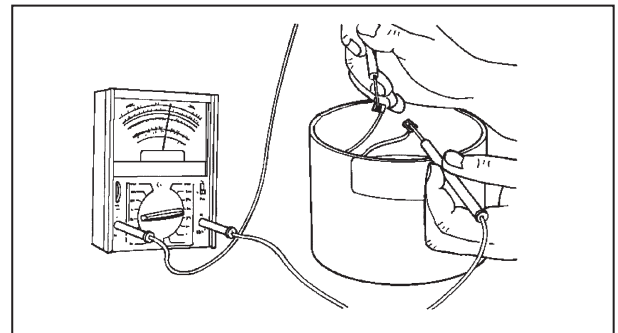

Figure 4.20
13. Test stator windings for open, grounded, or shorted conditions by connecting ohm meter leads to stator red and orange wires (see Figure 4.20). If meter does not move, replace stator.